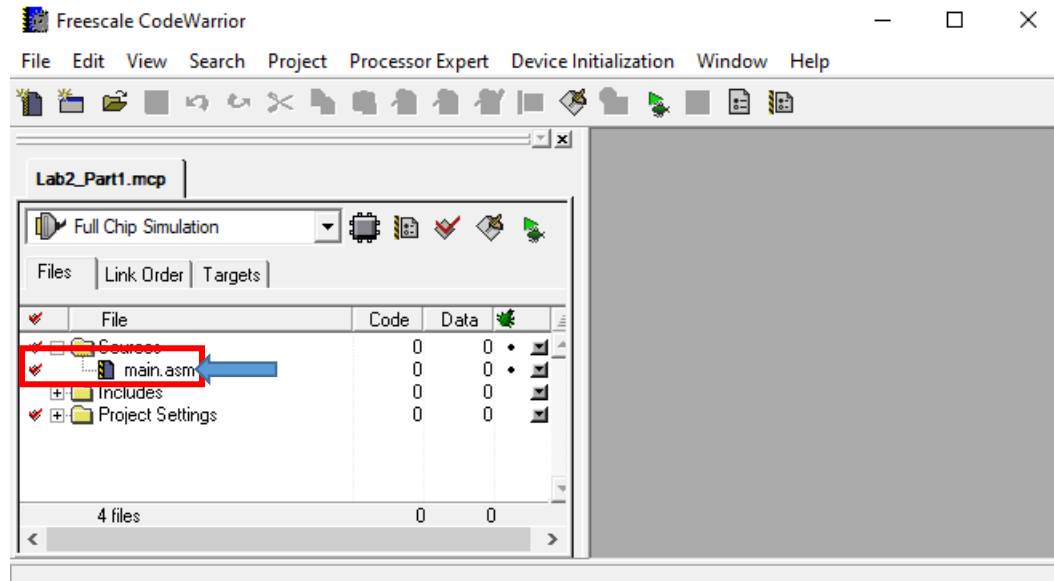

Figure 3.
- CodeWarrior main window opens up as shown in Figure3. From the dropdown list on the left, select **"Full Chip Simulation"** if it is not so yet. Double click the file, 'main.asm' in Figure 3.